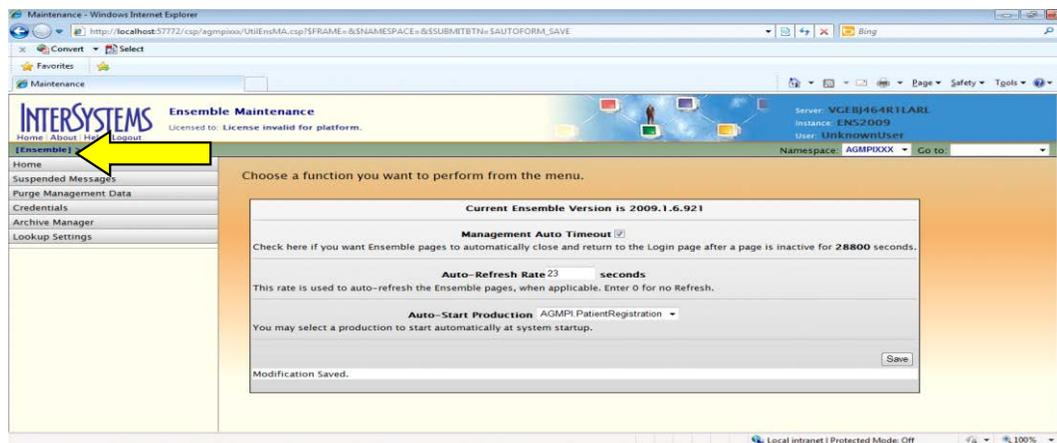

Figure 9-4: Ensemble Maintenance page after clicking Save button
4. Click **Ensemble** on the left side of the page, as shown in Figure 9-4, to return to the Ensemble Management Portal.